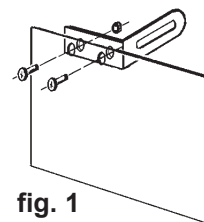

fig. 1
- 3.2.1. Attach mounting bracket to eye shield using screws and nuts provided. Note offset holes in shield and assemble as shown in fig. 1.